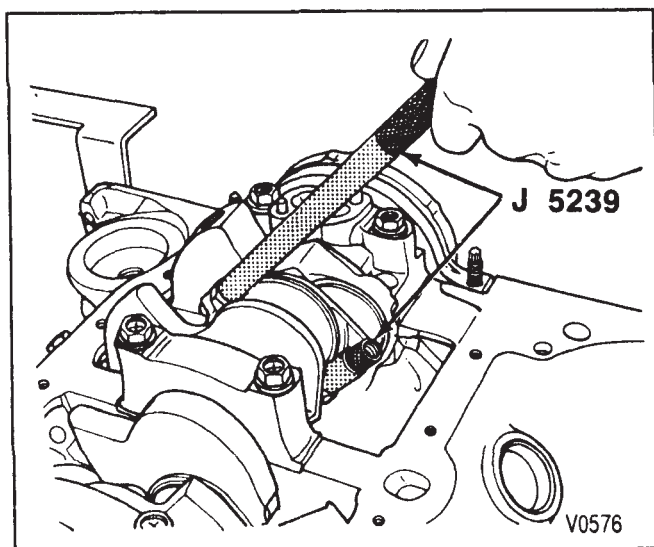

Figure 28—Replacing the Piston and Connecting Rod
5. Connecting rod and piston (figure 28).